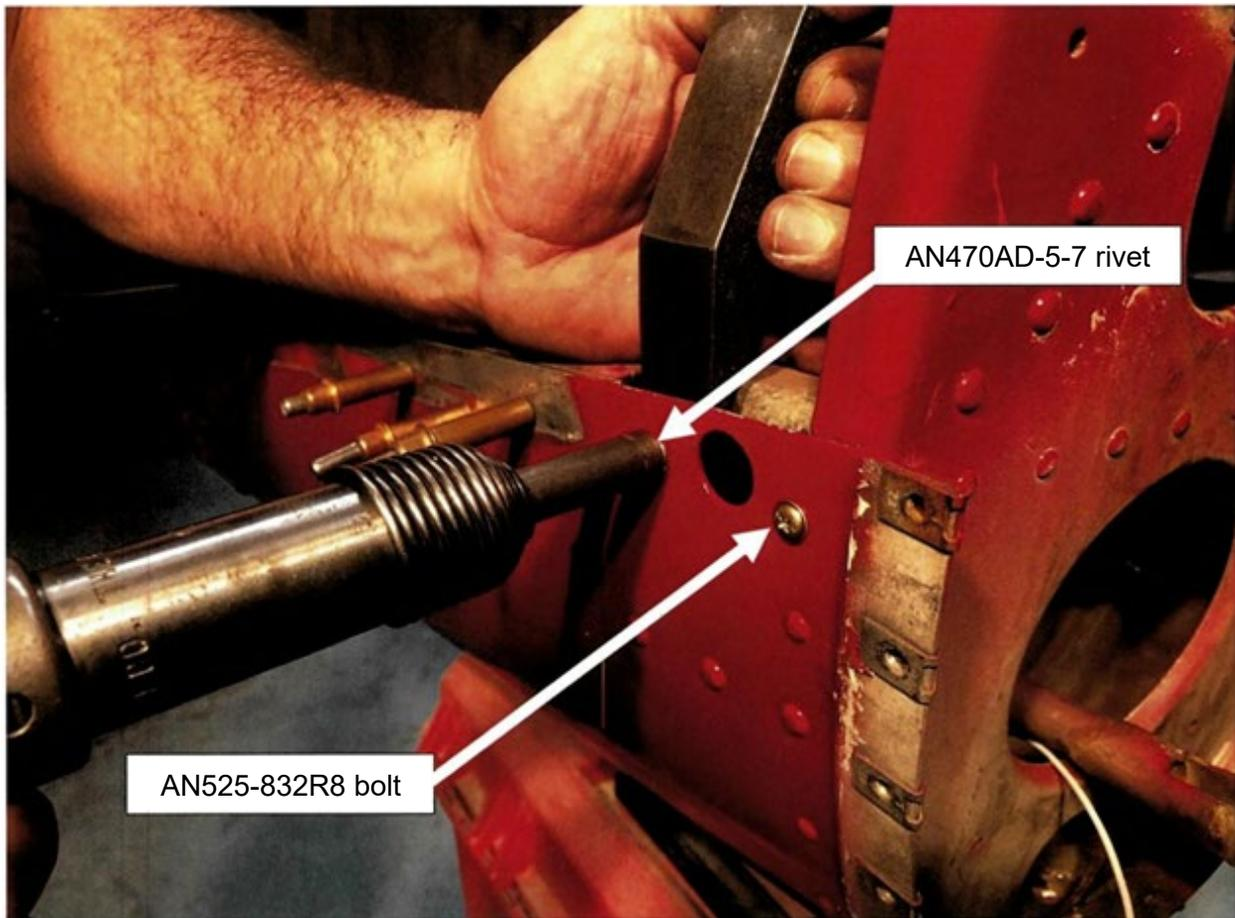

Figure 26: Rivet Reinforcement Angle Splice
13. Reinsert the tail cone reinforcement angle splice and temporarily secure with clecos. Wet coat holes and fasteners with a corrosion preventative primer before installing fasteners. Insert an AN525-832R8 bolt (the shorter one) into the far aft tail cone reinforcement angle hole along with an AN960-8 washer and a MS21043-08 nut. Tighten the nut securely. Insert an MS20470AD5-7 rivet* into the second from the aft rivet hole and secure it with a pneumatic rivet gun and appropriate bucking bar as shown in Figure 26.